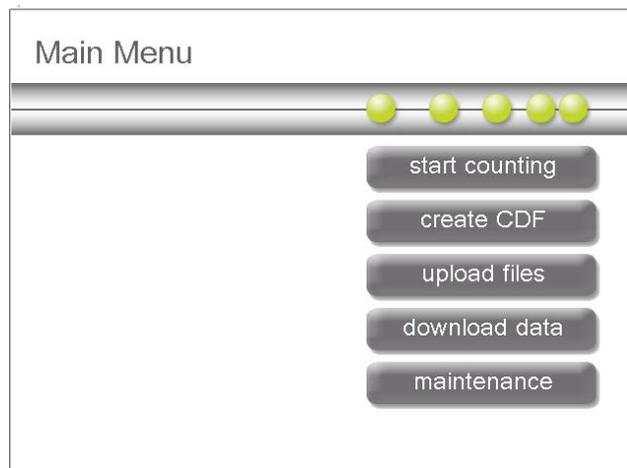

Figure 2.37 The Main Menu
1. From the Main Menu (Figure 2.37), press **download data**.